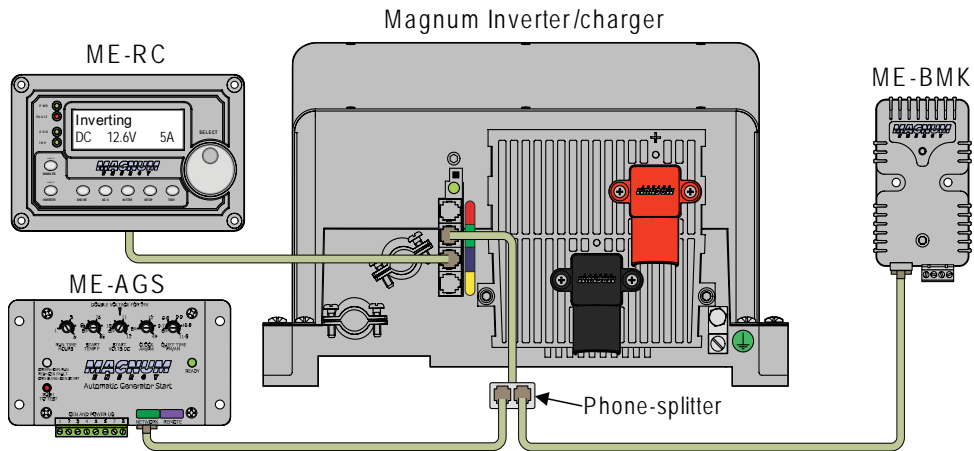

Figure 2-4, Multiple Network Devices - Star Configuration
- Star Configuration - In the star arrangement the network devices all connect to the “network” port via a phone-splitter to the inverter using individual cable runs (see figure 2-4). Since each device is independently connected to the inverter’s “Magnum Net” or “network” port, problems in a cable or a device can be easily isolated; and if there is a cable failure to one device, it does not bring down all the other devices.